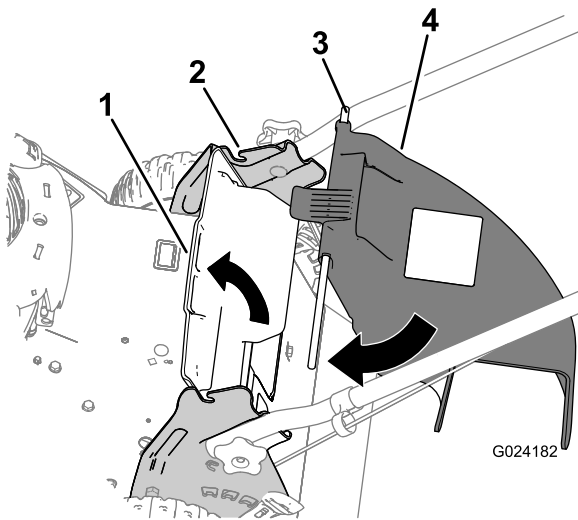

Figure 13
1. Lift up the rear deflector (Figure 13).
2. Insert the rod ends of the side-discharge chute into the notches on the handle brackets (Figure 13).